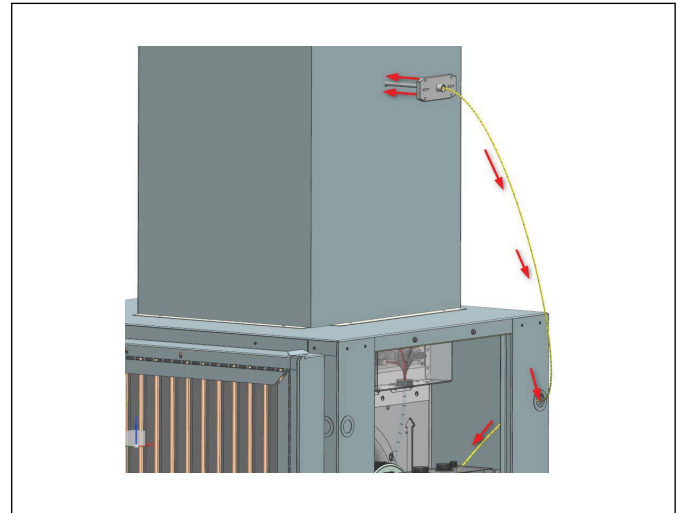

Figure 43
3. Drill 1/4" hole in center of duct work 12-18" away from unit. Using hardware provided, insert 8" discharge air temperature probed to hole and secure mounting flange to duct using hardware provided as shown in Figure 43.